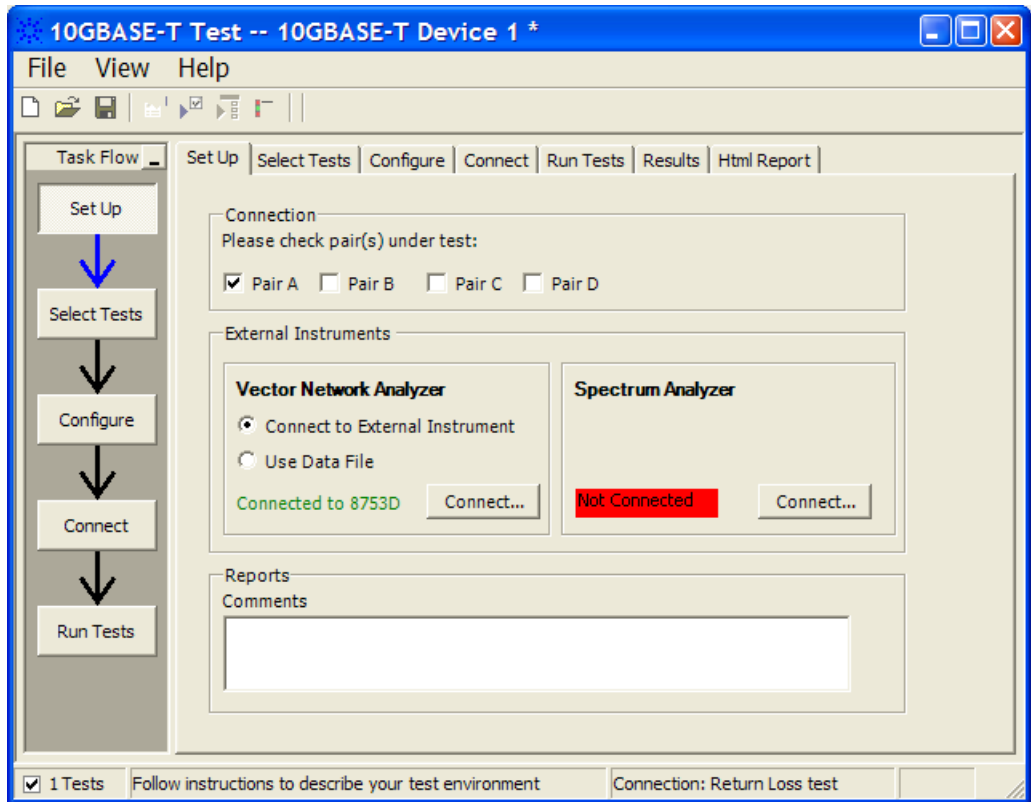

Figure 30 Setup page after application has detected the vector network analyzer
- 9 Once the application detects the vector network analyzer, it is indicated on the Setup page as shown in Figure 30 below.